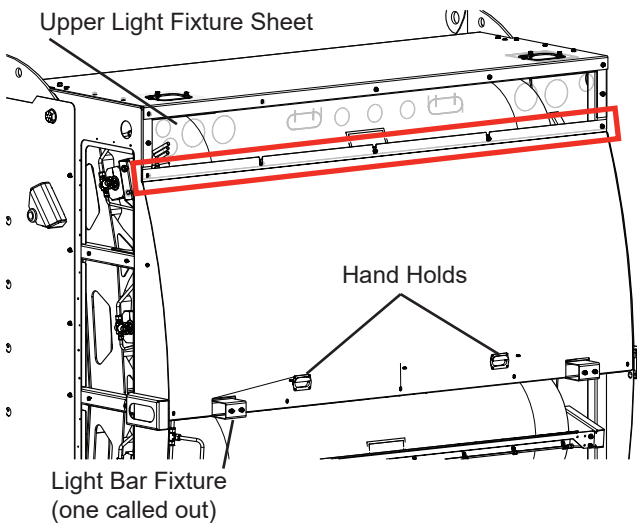

Figure 5-5
7. Remove and retain the (5) top fasteners from top cover sheet (Figure 5-5). The top cover sheet should be held in place at the top underneath the upper light fixture sheet (Figure 5-5).